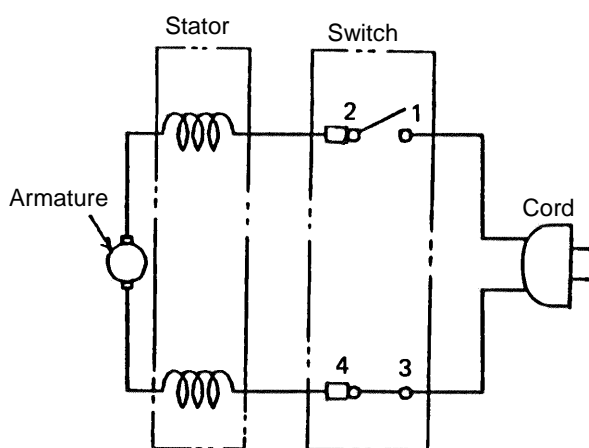

Fig. 14
(6) Wiring Diagrams (See Fig. 14 - 17)